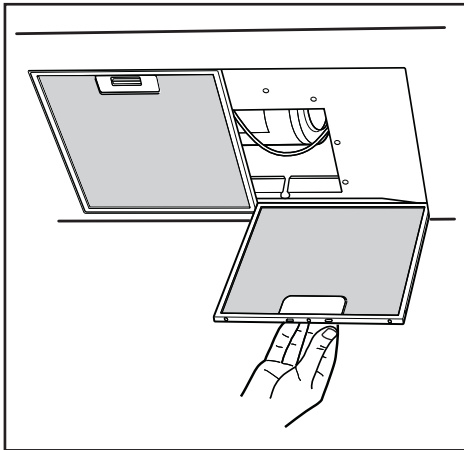

Fig.7
- The minimum distance between the support surfaces of the cooking pots on the cooker top and the lowest part of the cooker hood must be at least 65 cm. If a connection tube composed of two parts is used, the upper part must be placed outside the lower part. Do not connect the cooker hood exhaust to the same conductor used to circulate hot air or for evacuating fumes from other appliances generated by other than an electrical source. Before proceeding with the assembly operations, remove the anti-grease filter(s) (Fig.7) so that the unit is easier to handle. In the case of assembly of the appliance in the suction version prepare the hole for evacuation of the air.